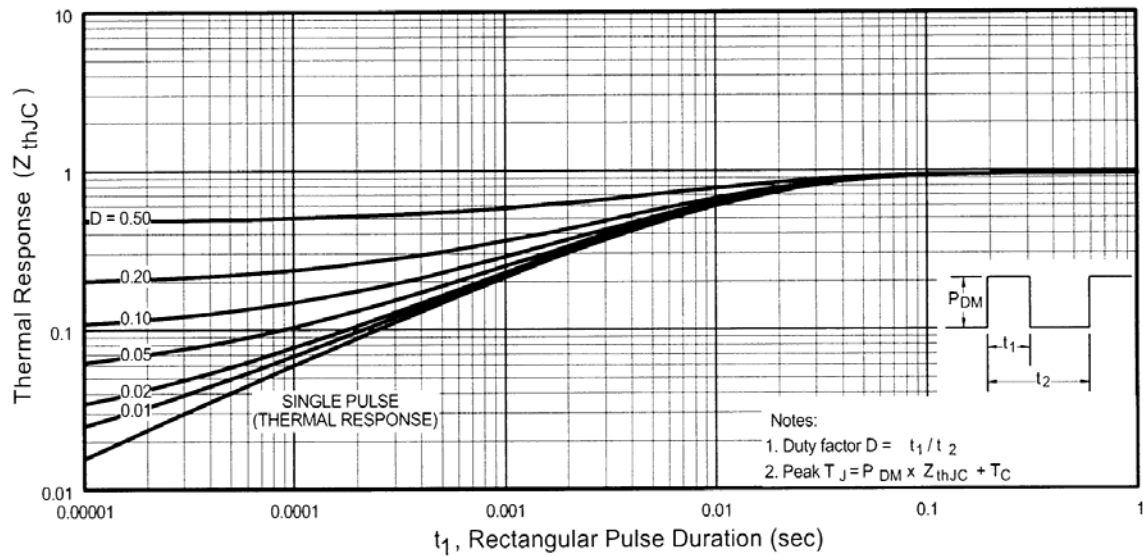

Fig 11. Maximum Effective Transient Thermal Impedance, Junction-to-Case
- ① Repetitive rating; pulse width limited by max. junction temperature. (See fig. 11)
- ② Starting $T_J = 25^\circ\text{C}$, $L = 1.7mH$